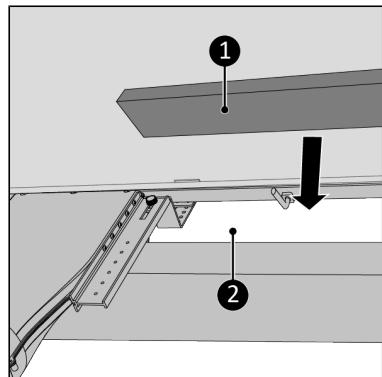

Figure 102.
15. Fill up the open spaces (Figure 102, pos. 1) with the delivered isolation foam (Figure 102, pos. 2), cut the foam if necessary*.